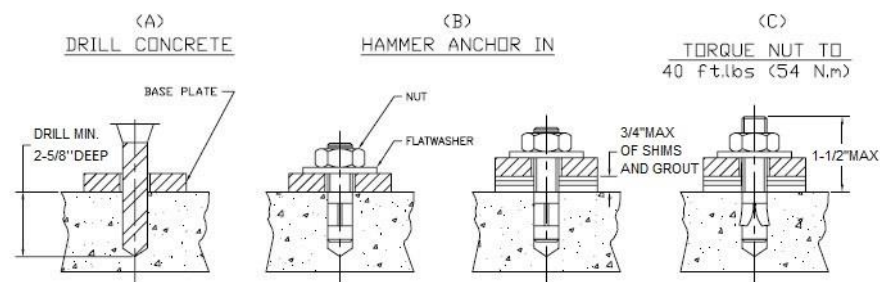

Figure 23 - Anchoring
3. Using a rotary hammer drill and a 1/2" concrete bit, drill through the floor at each of the five (5) anchor bolt locations on each of the base frames. Refer to Figure 23.